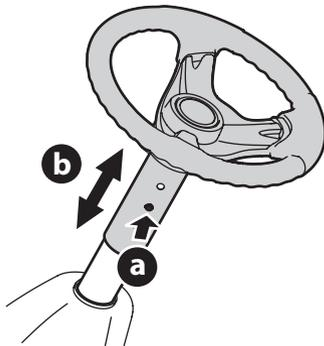

Figure 5
2. Push the button (a) on the steering column and raise or lower the steering wheel (b) to the desired position. See Figure 5.